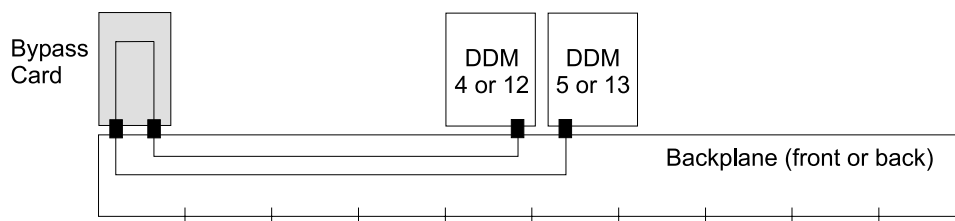

Figure 57. SSA Link Failure, Bypass Card and Two DDMs (S008143l)
- The degraded link is between two center DDMs, on the same backplane, and the bypass card they are connected to. See Figure 57.